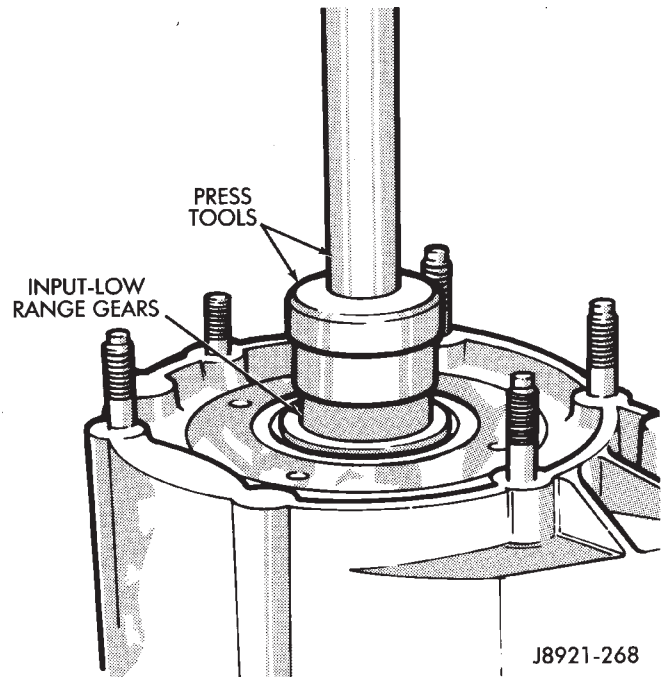

Fig. 30 Removing Input And Low Range Gears
- (44) Press input and low range gears out of input gear bearing and case (Fig. 30). Use suitable size driver tool to press gears out of bearing and case.